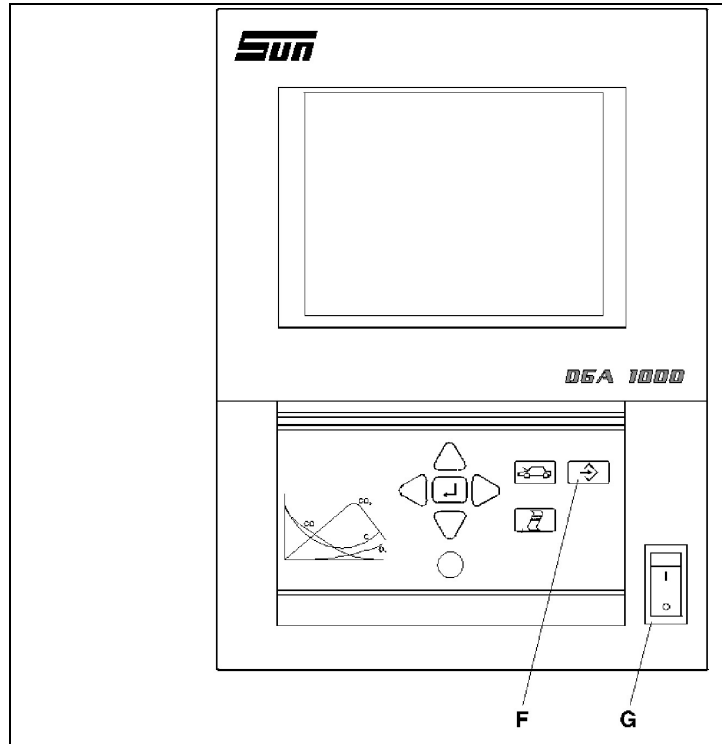

Figure 1-9: Front Panel
1. Make sure the on/off switch (G) is set to off (O). See Figure 1-9.